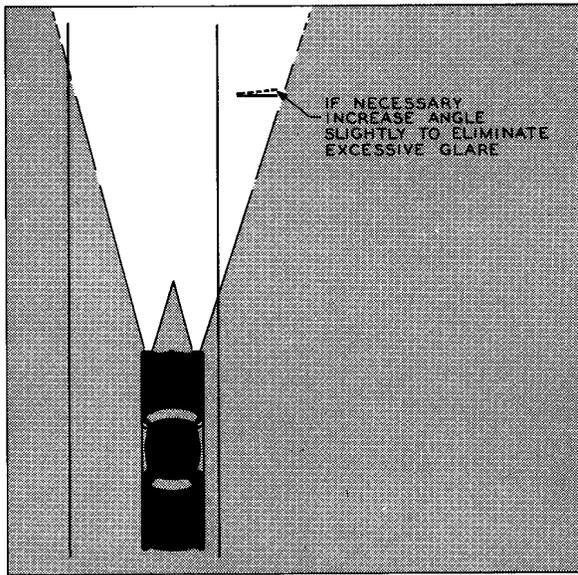

Fig. 4 — Locating Sign to Reduce Glare
1.04 When excessive glare from the face of the sign affects its legibility, turn sign slightly away from road as shown in Fig. 4.